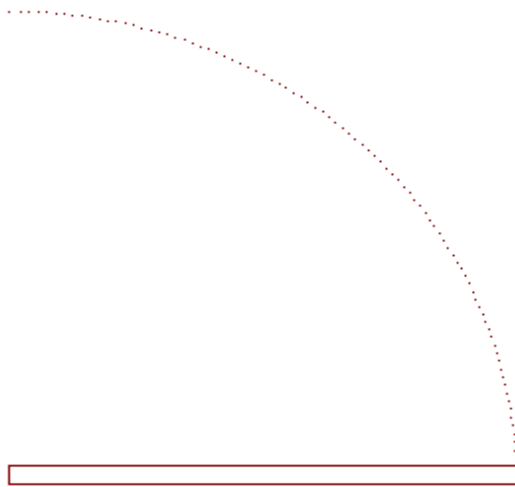

Fig. 6.1: 3'00" x 0'1.5" door
- Draw an arc and change its linetype as shown in the Figure.6.1 and save as door1.dwg file.